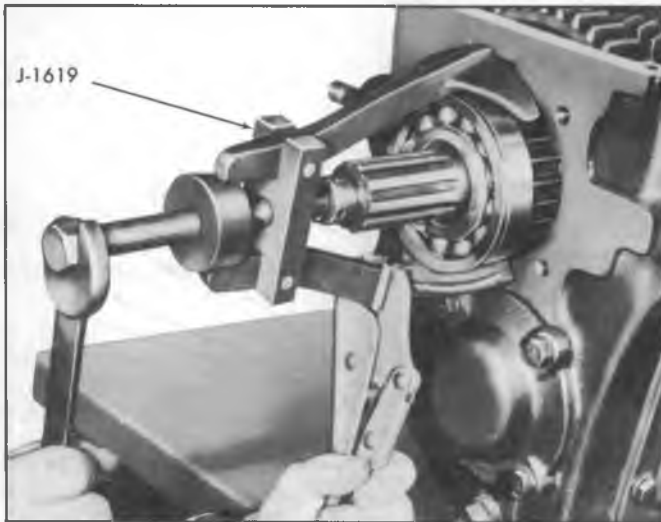

Fig. 2R--Removing Mainshaft Rear Bearing
1. Mount transmission in holding fixture Tool J-5750 as shown in Figure 2R and remove parking brake band and linkage. Remove cotter pin and nut from rear of mainshaft and pull brake drum and flange from shaft.